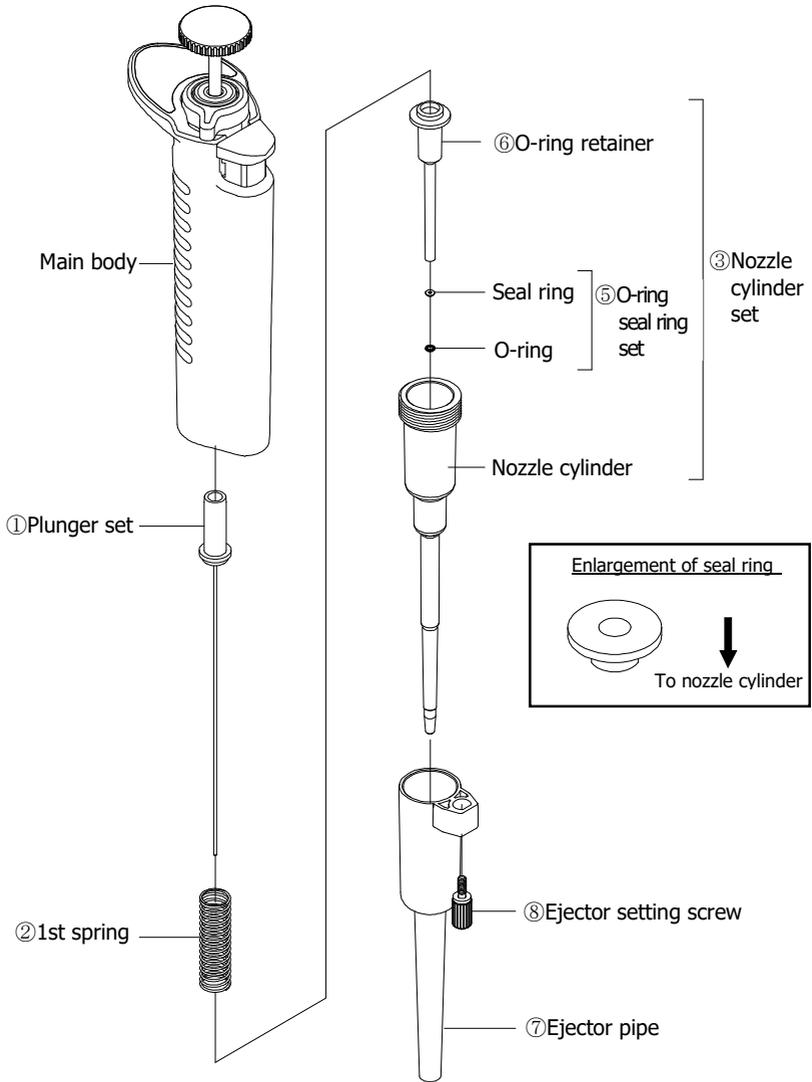
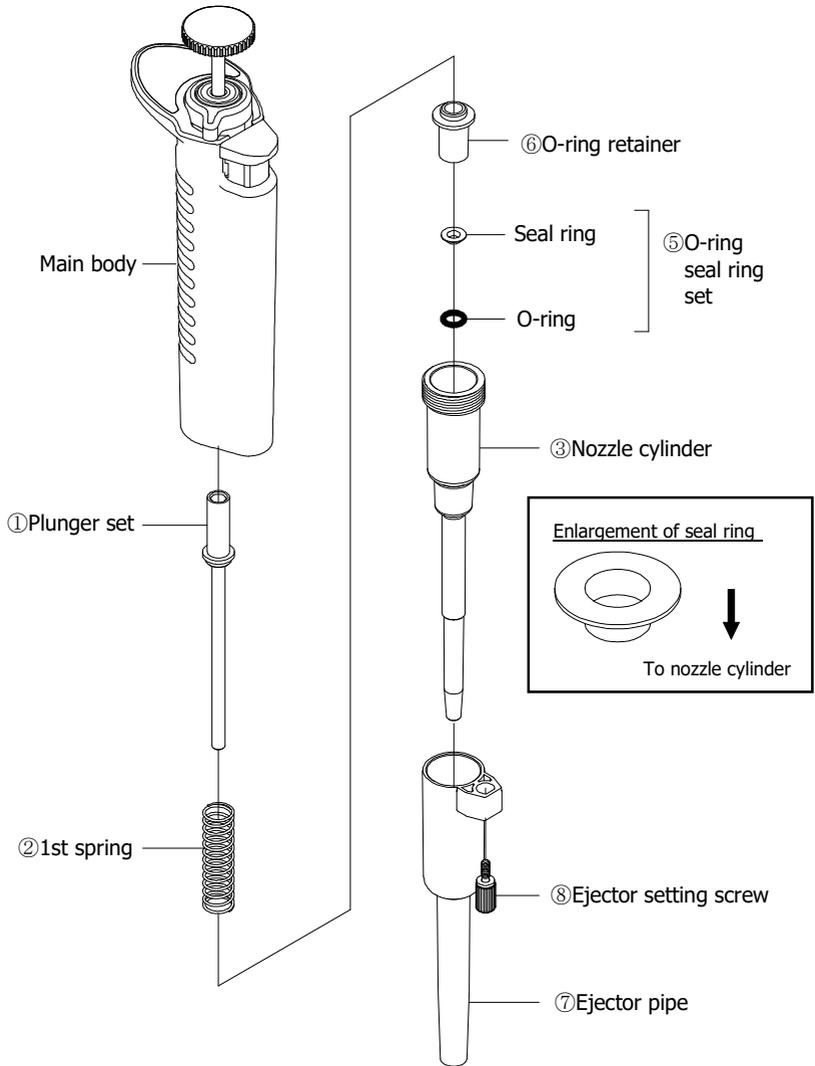
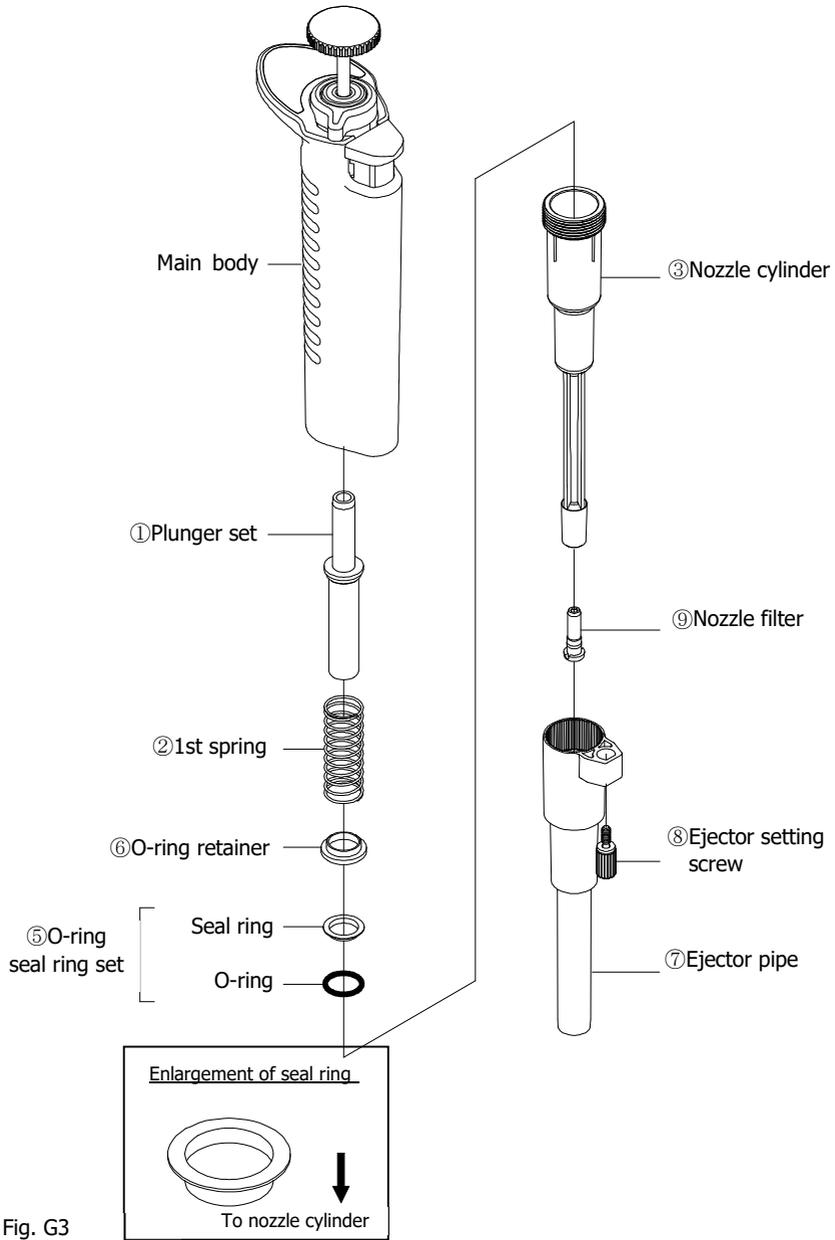

Fig. G1
Fig. G2
Fig. G3
- 3) Disassemble the internal parts as shown in; (Fig. G1) for Models: 2µL, 10 and 20µL, (Fig. G2) for Models: 100µL and 200µL, and (Fig. G3) for the Model: 1000µL.
- For models: 2µL, 10µL, 20µL (Fig. G1), 100µL and 200µL (Fig. G2), 1000µL (Fig. G3)
- Models: 2 μ L, 10 μ L, 20 μ L (Fig G1), 100 μ L and 200 μ L (Fig. G2), 1000 μ L (Fig. G3)
Circled Numbers in (Fig. G1) corresponds to Parts Numbers in the replacement parts list.
Circled Numbers in (Fig. G2) corresponds to Parts Numbers in the replacement parts list.
Circled Numbers in (Fig. G3) corresponds to Parts Numbers in the replacement parts list.